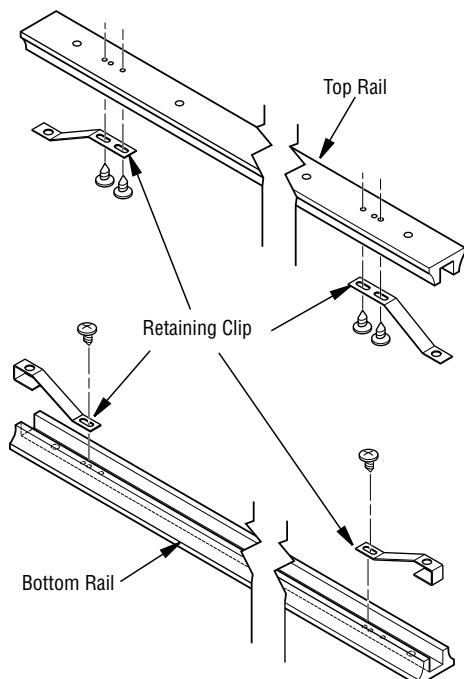

Figure 39 - Mounting Door Retaining Clips
6. Secure retaining clips to top and bottom rails (see Figure 39).